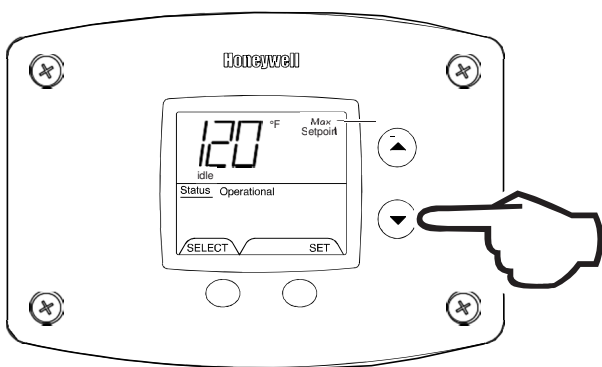

Figure 41 'Max Setpoint' stops flashing
3. Press the 'UP' or 'DOWN' buttons to change the maximum setpoint value. This will limit the maximum setpoint the user can select. Note: The maximum setpoint is approximately 82C (Fig. 41).